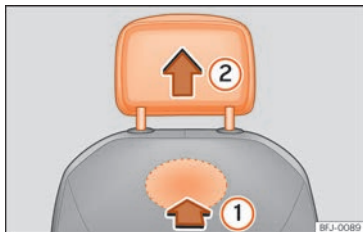

Fig. 117 Front headrest: removal.
- To unlock it, look for the rabbit on the bottom of the backrest and press in the direction of the arrow »» Fig. 117 ①.
- Remove the headrest in the direction of the arrow ②.